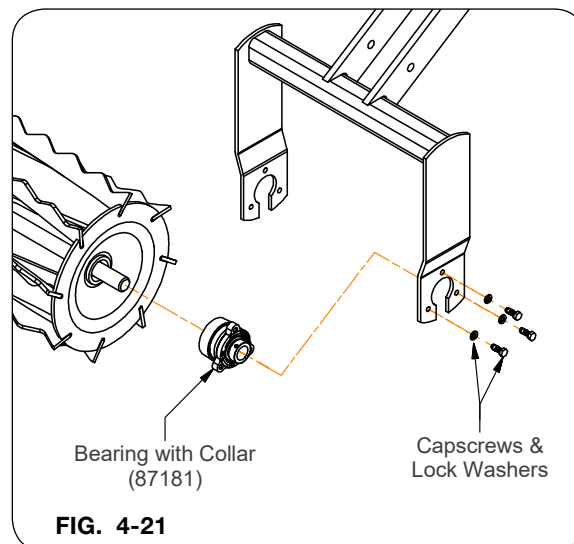

FIG. 4-21
8. Slide a new bearing (87181) on the shaft with the lock collar on the outside (Fig. 4-21).
9. Pry the end of the basket into the slot of the frame (Fig 4-21).
10. Assemble the new 5/16"-18UNC capscrews through the holes in the frame and into the bearing housing (Fig. 4-21).